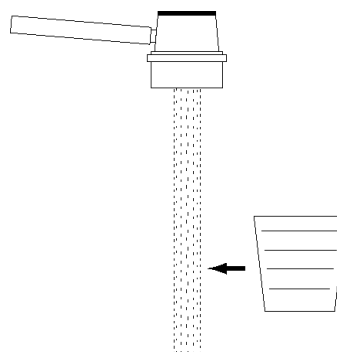

Figure 9-1. Sample Collection
4. Without touching the dialyzer connector opening or surrounding area, hold the connector over the fluid catchall container, a sink, or a basin in such a manner that the stream will flow straight out of the bottom of the connector. (See Figure 9-1.)